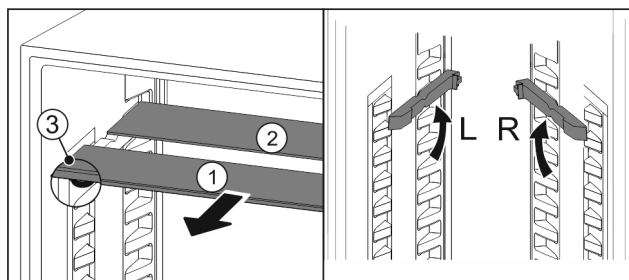

Fig. 163
- Pull the glass panels out Fig. 163 (1) from the front, one at a time.
- The glass panel Fig. 163 (1) and trim strip are at the front.
- The stops Fig. 163 (3) point down.